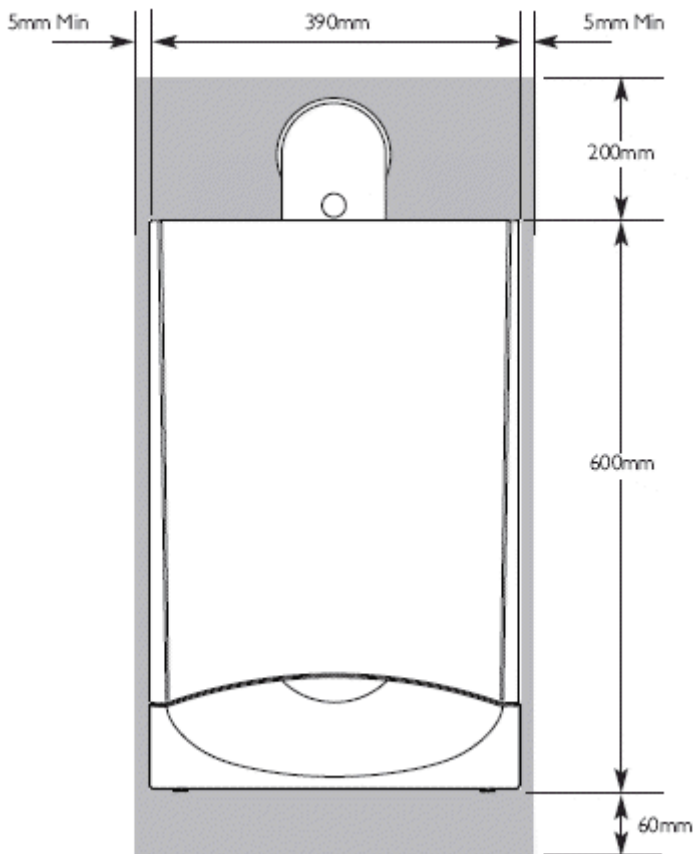
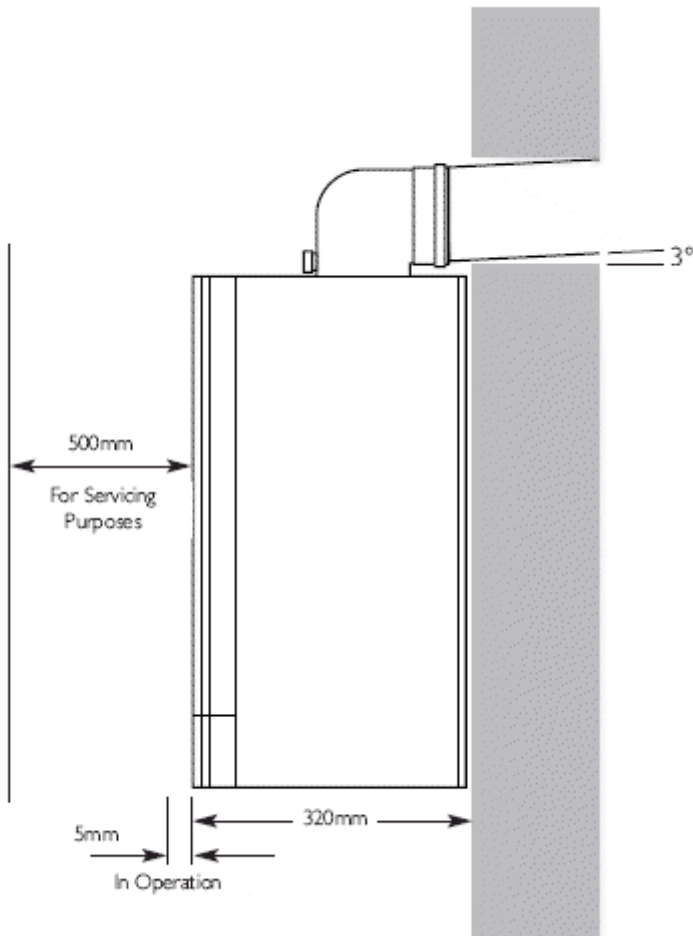

Fig. 8
Fig. 9
6. Your boiler should have the following minimum clearances for Safety and Maintenance (Fig. 8 & Fig. 9):-